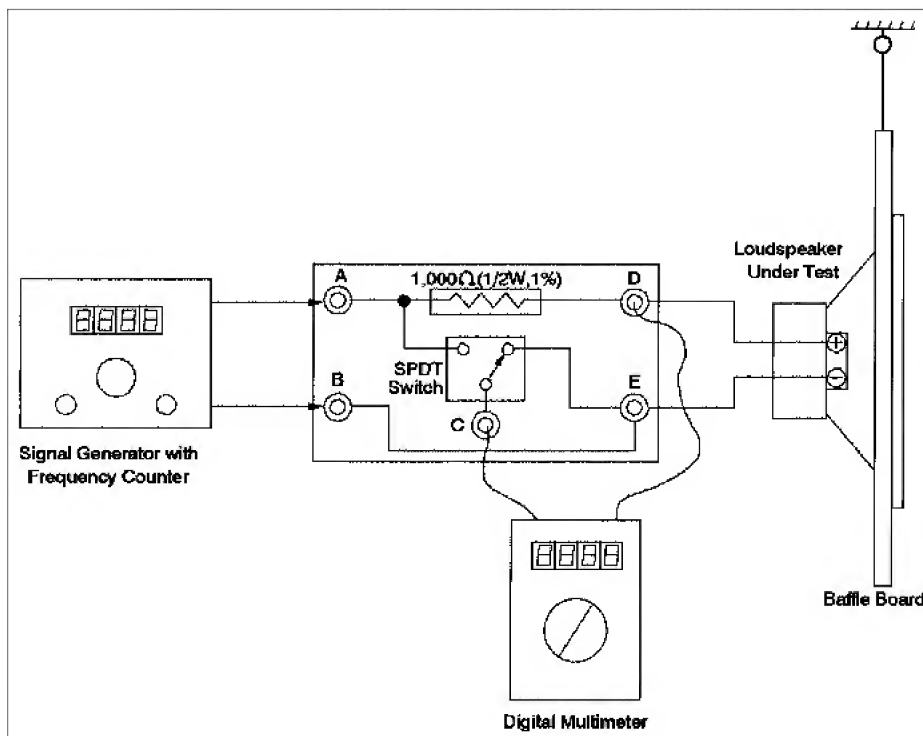

Figure 8-1 Impedance testing circuit.
Figure 8-1 shows the test setup referred to in the literature (Refs. 3, 5, and 11) as the "constant-current method" for measuring loudspeaker impedance. This particular setup has an added switch that makes the measurement process easier and more accurate and is usually not found in the literature. The switch must be of fairly high quality and have no measurable contact resistance in order for it not to introduce measurement error. You can still use the same procedure that we advocate without the switch, but you will have to transfer the voltmeter leads back and forth a few times.
The test equipment required is a signal generator, a frequency counter (preferably built into the signal generator), a high-impedance ac voltmeter, a 1,000-ohm, $\frac{1}{2}$ -W resistor (preferably 1 percent precision), and an assortment of 1 percent precision resistors used to check calibration. Referring to Figure 8-1, the signal generator is connected to input terminals A and B. The loudspeaker under test is connected to terminals D and E. The positive (red) lead from the ac voltmeter is connected to terminal D and the negative (black) lead is connected to terminal C. The single-pole, double-throw switch allows you to conveniently toggle the black lead back and forth between terminals A and E.
2. Next, we must suspend the woofer vertically in free space by hanging it with a string and connecting it to the circuit shown in Figure 8-1. (To obtain measurements more representative of how the speaker will behave when mounted, you should test it mounted on a baffle board with approximately the same dimensions you plan to use.) (Reference 3.) With the switch set to E, adjust the signal generator frequency until the maximum ac voltage is read on the multimeter.
For all testing, I mounted the driver in a door-panel-type baffle and teamed it with a Vifa D26NC-05-06 soft dome tweeter. This assembly was installed in the test wall (Photo 8-1). After the 1-hour break-in, I took the following measurements with the test circuit of Figure 8-1: